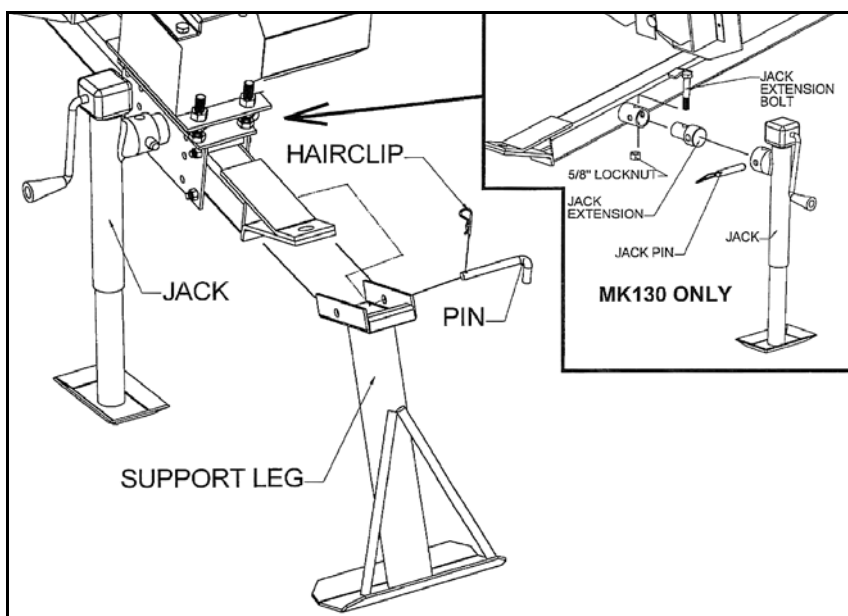

Figure 2.1
5. Install support leg as shown in Figure 2.1.
➔ 9. **MK130 ONLY:** Install jack extension with jack extension bolt and 5/8" locknut provided as shown in Figure 2.1 (inset). Tighten securely.